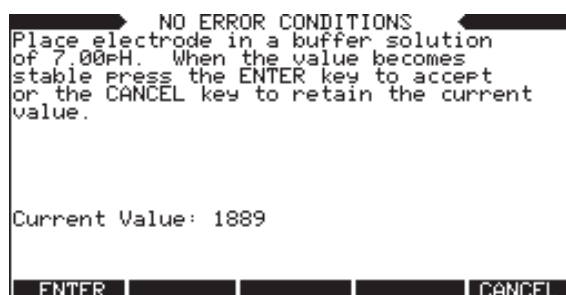

Figure 52. The Calibration at pH 7.0
4. **Press [4]** to select the calibrate slope menu (Figure 52 on previous page). Place the probe, after rinsing it with D.I. (deionized) water, in a standard buffer (e.g., pH 4.0 or 10.0) and stir with the electrode to ensure proper contact. Allow the signal to stabilize, and then **press [ENTER]** or the **[A]** button. The controller will warn you if it determines that the probe response is not typical. A typical response to a change from pH 7.0 to either 4.0 or 10.0 would generate a shift of approximately 870 units, plus or minus depending on the buffer from the current value determined at pH 7.0 (e.g., 2048).